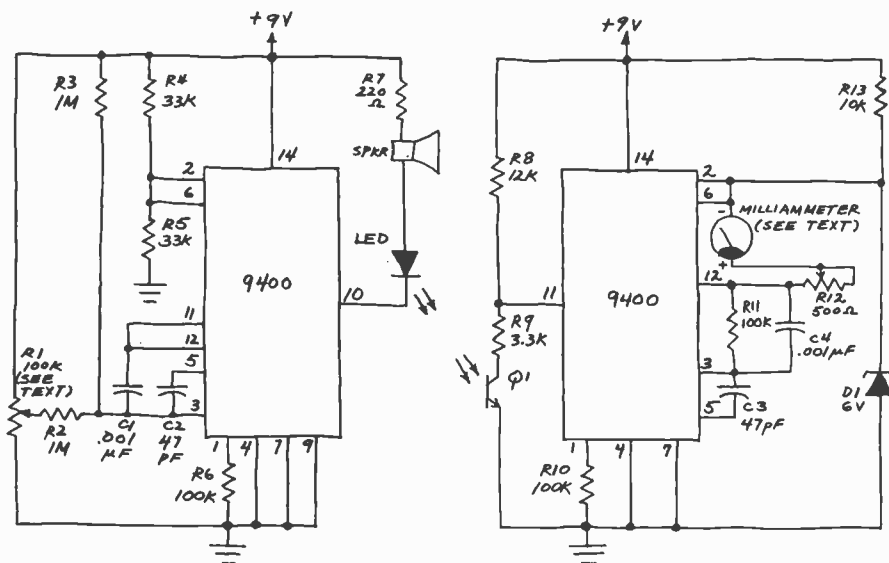
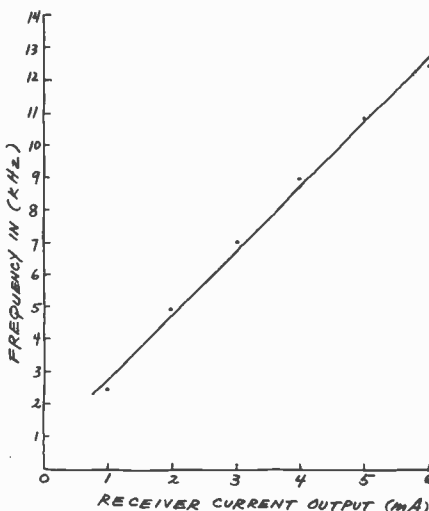

Fig. 4. Analog data transmission system designed by Michael Paiva.
Fig. 6. Receiver output current vs. input frequency for 9400 analog transmission system.
**9400 F/V Converter.** Last month, we experimented with a very linear V/F converter built around a 9400 IC. Figure 4 shows a 9400 connected as a F/V converter to decode data transmitted by an infrared LED driven by a 9400 V/F converter. This pair of circuits, which is adapted from a design by Michael O. Paiva, Teledyne Semiconductor's Product Marketing Manager, makes an ex-
The receiver consumes only about 3.5 mA when powered by a 9-volt battery. Its output voltage appears at pin 12, so a DVM can be used for a readout. It's more convenient, however, to connect a small 0-to-1 or 0-to-10-mA panel meter directly to the output as shown in Fig. 4.
With the component values specified in Fig. 4, the analog system can transmit an input ranging from 0.25 to 8 volts. The received signal, as displayed on a milliammeter, will range from a minimum of 0.2 mA to a maximum of about 6 mA. Figure 6 is a plot of the transmitted frequency versus the receiver output current. Increasing C2 in the transmitter to 220 pF will lower the maximum frequency and restrict the maximum receiver output current to about 0.8 mA, thus allowing use of a 0-to-1-mA meter. Shown in Fig. 7 is a plot of the transmitted frequency versus the receiver output current when C2 is 220 pF.
Also, remember that you can use either the 9400 or LM331 in most F/V (and V/F) applications. The chips are not directly interchangeable and they're not even functionally identical. But their operation in both V/F and F/V modes is very similar. For example, with the help of the National Semiconductor data sheet, you should be able to adapt the analog transmission system shown in Fig. 4 for use with LM311 instead of 9400 ICs. ◊